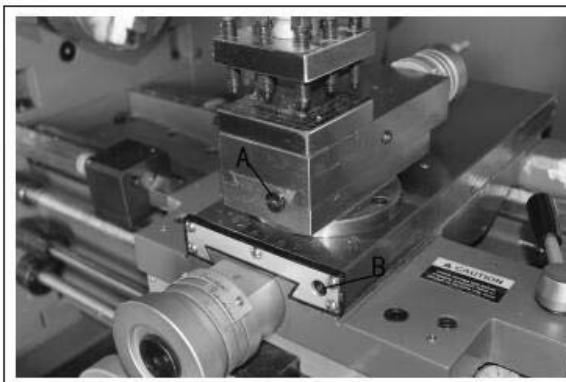

Figure 23
- Tighten the front gib screw (B, Fig. 23) a quarter turn. Turn the cross slide handwheel to see if the cross slide is still loose. If it is still loose, tighten the front screw a bit more and try again.
Follow the same procedure as the cross slide adjustment to adjust the compound rest. Rear gib screw is shown (A, Fig. 23). Front gib screw (not shown) is by the handwheel.